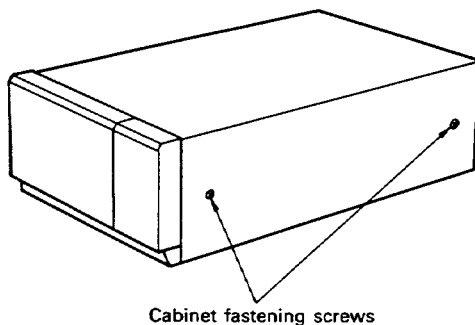

Fig. 2-1
- Remove four cabinet fastening screws, (Fig. 2-1).